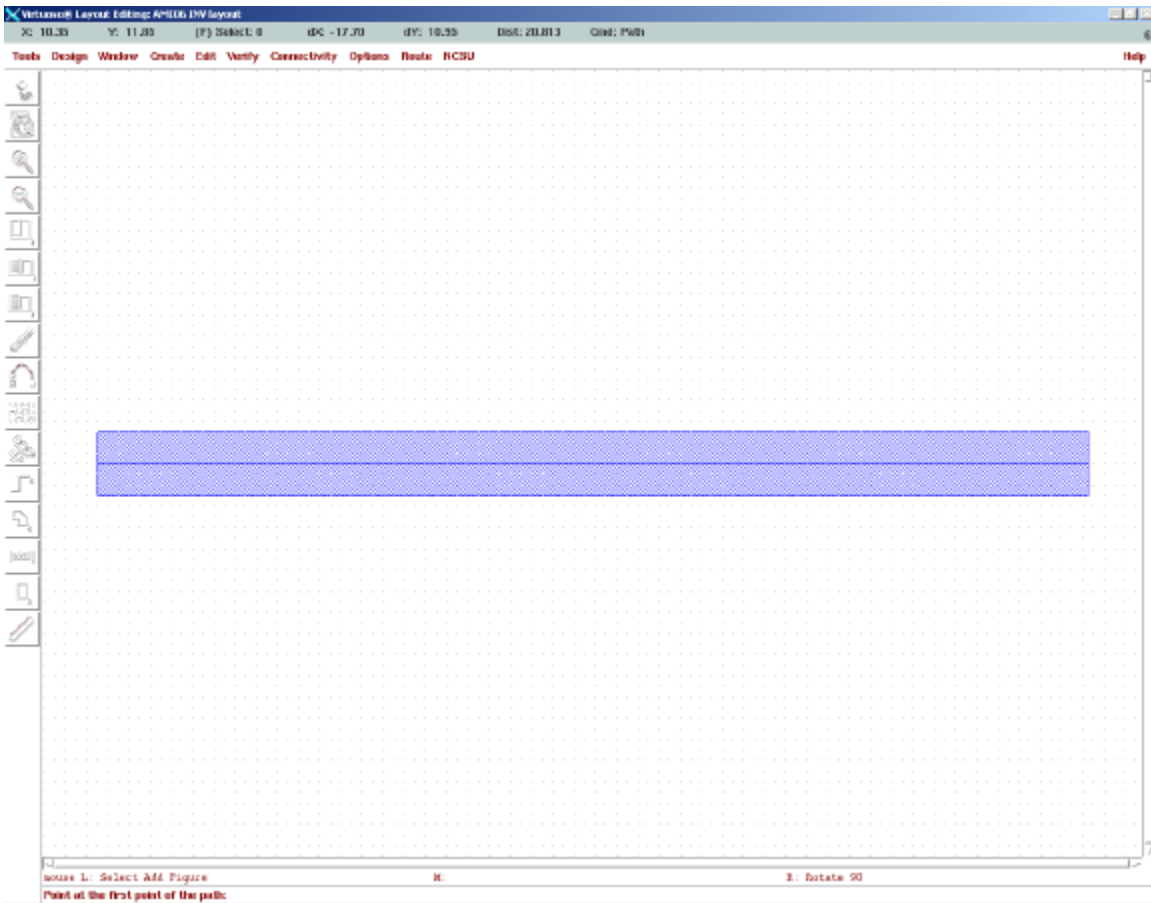

Figure 64: Drawing the Ground Line.
3. Start the path by click the left mouse button at the coordinate $x=0, y=.9$ (Figure 64).
4. End the path by double click at coordinate $x=28.05, y=.9$ (Figure 64).